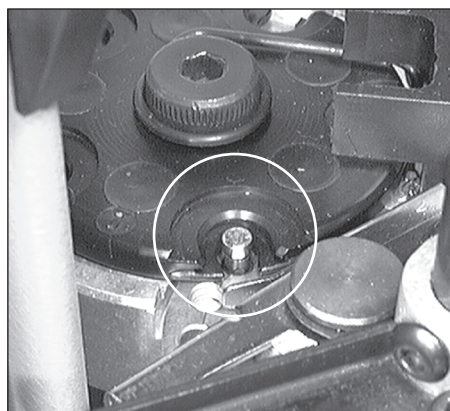
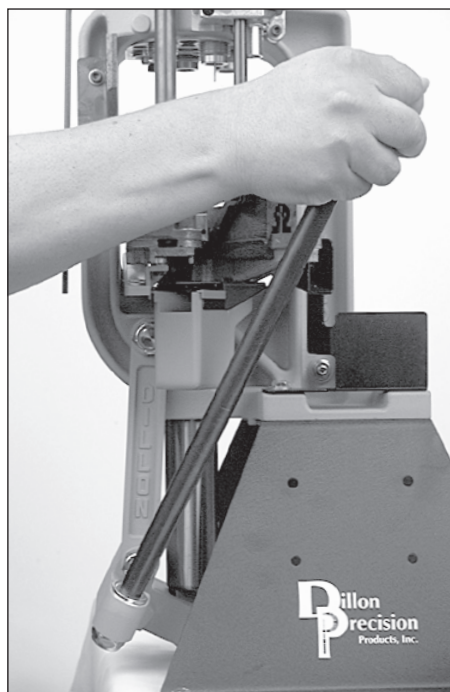
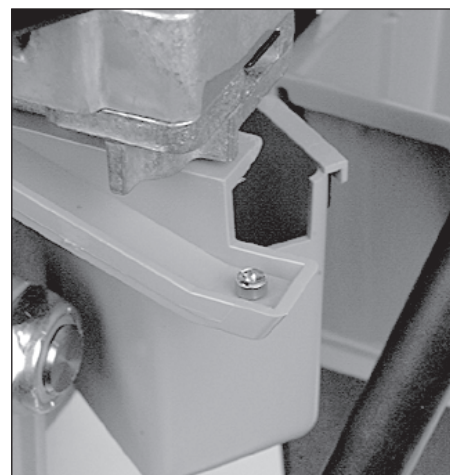

FIG 130
FIG 131
FIG 132
When you cycle the machine, the rotary primer disc rotates one notch, advancing another primer into position. When the handle is pushed to its full aft stop FIG 131, the primer seating punch pushes the primer up through the rotary primer disc FIG 130, fully inserting it onto the primer pocket of the case. If there is no case in Station 2 to receive the primer, the primer will return to the rotary disc and continue around until being dropped down a chute FIG 132 where it can be retrieved.
4. Drop an unprimed case into the case-feed funnel and cycle the machine twice. As the case is rotated into Station 2, complete the downstroke of the platform by firmly pushing the handle to its full aft stop FIG 131 – this will ensure that the primer is fully seated.